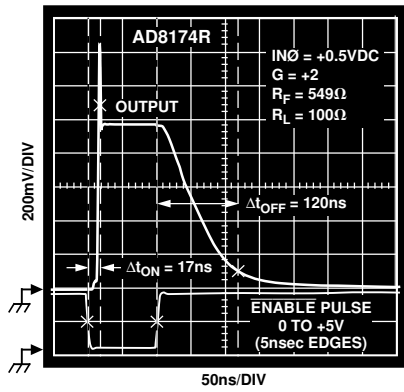

Figure 5. Enable and Disable Switching Characteristics
2AD8174 only. Shutdown (SD) pin is grounded.  $\overline{\text{ENABLE}}$  pin is driven with 0 V to +5 V pulse (5 ns rise and fall times). State of A0 and A1 logic inputs determines which channel is activated (i.e., if A0 = Logic 0 and A1 = Logic 1, then IN2 input is selected). Set IN0 (or IN2) = +0.5 V dc, IN1 (or IN3) = -0.5 V dc, and measure transition time from 50% of  $\overline{\text{ENABLE}}$  pulse (+2.5 V) to 90% of the total output voltage change. In Figure 5, ΔtOFF is the disable time, ΔtON is the enable time.